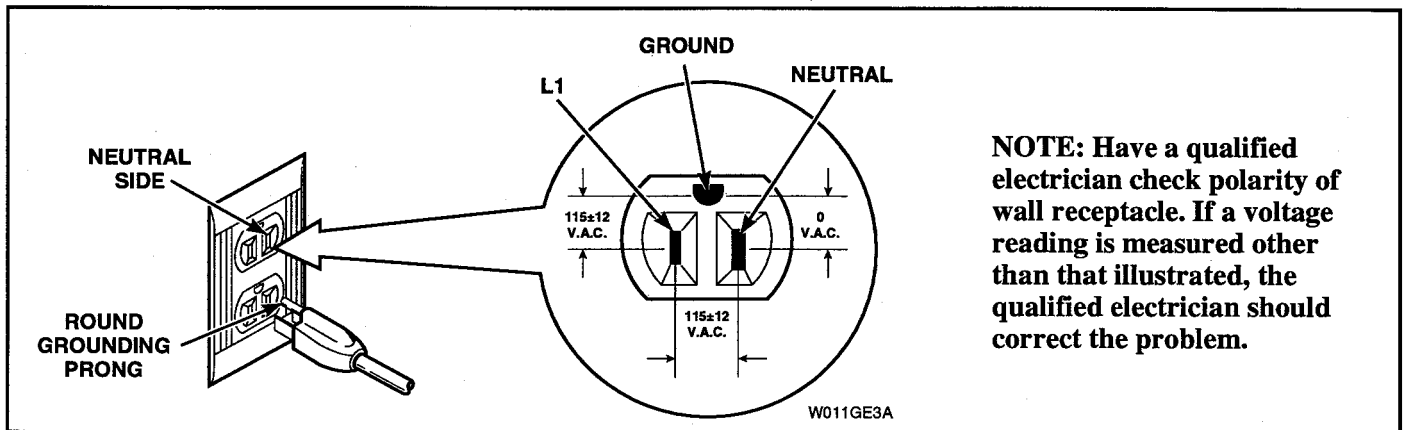

Figure 4-1
1. WALL RECEPTACLE POLARITY CHECK. See Figure 4-1.